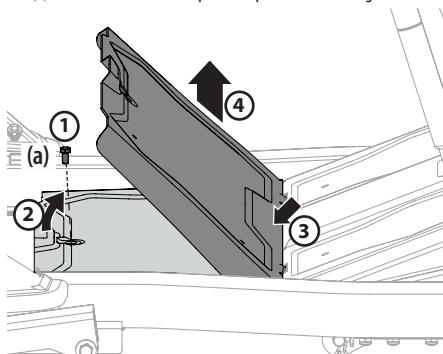

Figure 26
- Using the multi-tool or a 1/2" socket, remove the hex screw (a) that secures the floor panel in place. See 1 in Figure 26.
- Carefully lift the rear of the floor panel. See 2 in Figure 26.
- Slide the floor panel rearward to free the front of the floor panel. See 3 in Figure 26.
- Lift it off the tractor. See 4 in Figure 26.